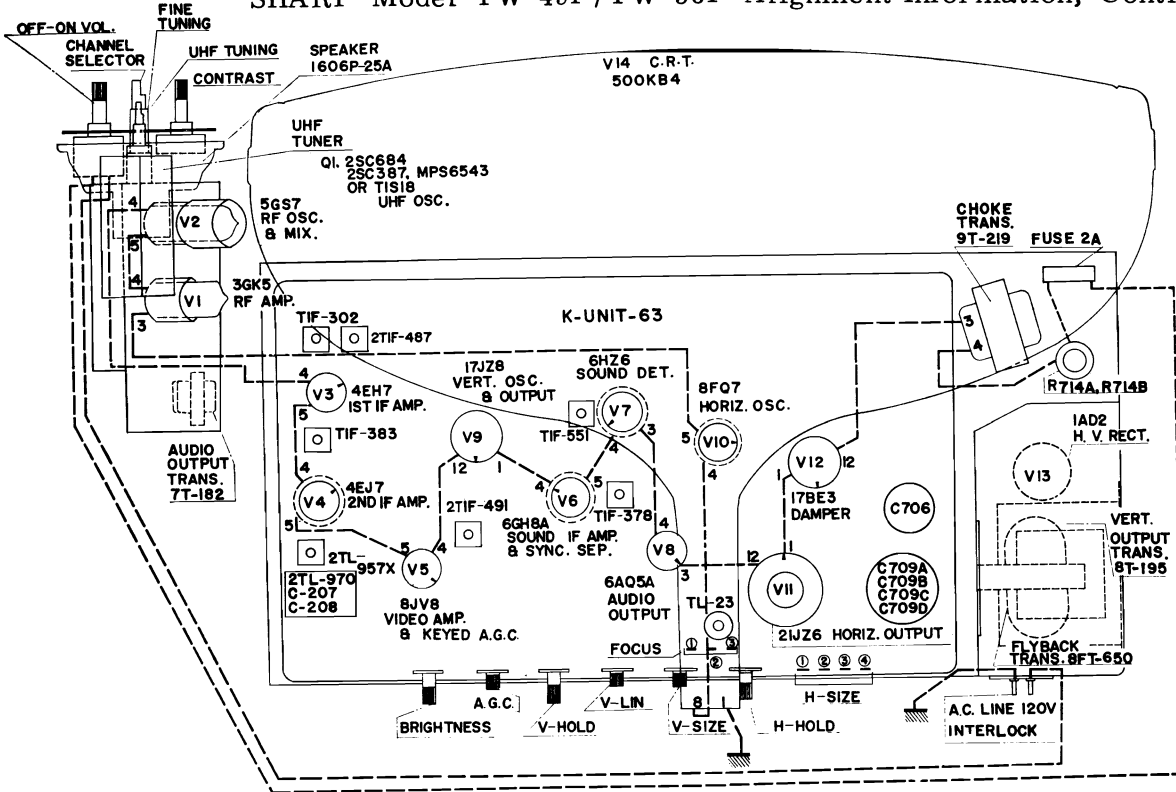

Figure 1 Chassis Tube Layout and Adjustment
1. Remove the two screws (①, ②, in Fig. 1).
2. Pull Protector straight out (③ in Fig. 1).
(Fig. 1)